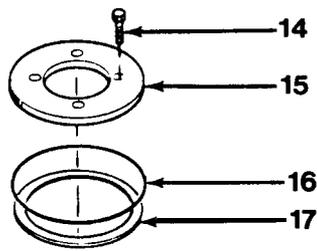

Figure 13-4
1. Remove four capscrews (14), plate (15), O-ring (16), and thrust washer (17, Figure 13-4).